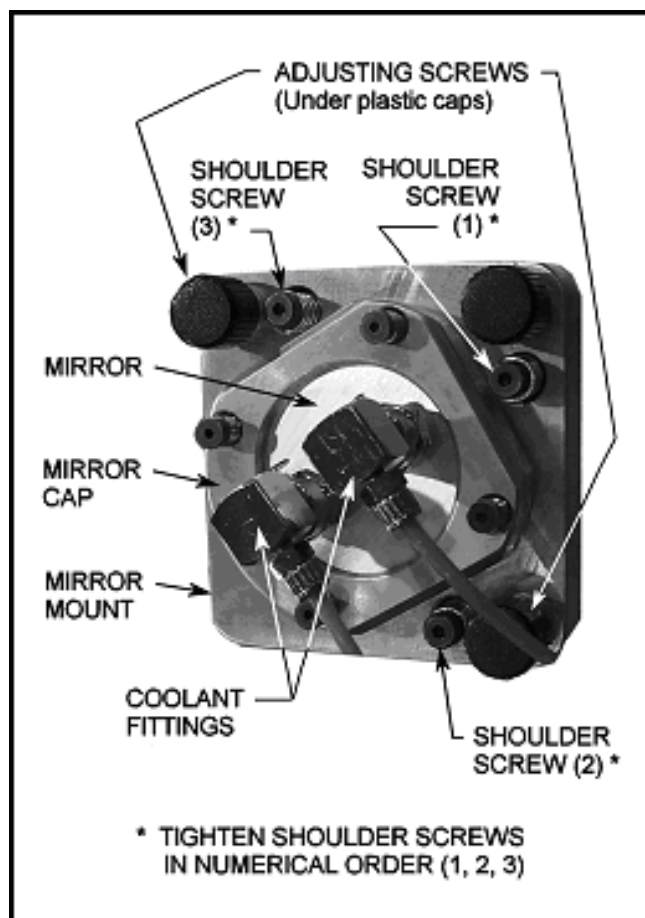

FIGURE 9-6 Mirror mount assembly
4. Each mirror (beam bender or collimator mirror) is held in its mount by a mirror cap fastened with four shoulder 3/32" hex screws and springs. See Figure 9-6. There are three 1/8" hex screws and springs that hold the mirror mount in place.
Each mirror in the laser system is cooled by flowing liquid coolant through the back of the mirror. The coolant tube fittings are dual shutoff quick disconnect type, to prevent excess leakage when disconnecting the tubing from the mirror. See Figure 9-6.